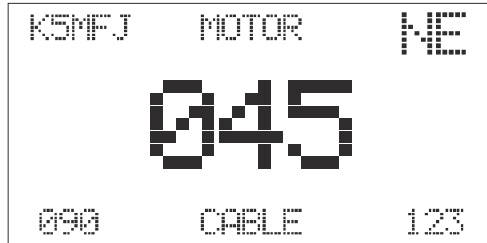

Figure 4. LCD Display
3. The YRC-1 display should look similar to the display shown in Figure 4. The numeric display in the center indicates the current bearing of your rotator. The numeric display in the lower right corner indicates the target bearing that is manually set. The numeric display in the lower left indicates target bearing that is computer set. The character display in the upper right corner indicates the compass heading in "NESW" format. The alphanumeric display in the upper left corner is where the call sign is displayed if programmed. If the center display reads a steady "999", disconnect your control cable and check the cable wiring with an ohmmeter. The resistance of the position sense pot measured between pin 1 and 3 should be 500 ohms plus the cable resistance. The reading between pins 2 and 3 should be somewhere between 0 and 500 ohms depending on the heading of the rotator. Anything much over 500 plus the resistance of the cable indicates a possible problem. Proceed if the cable checks OK. 999 also indicates that the